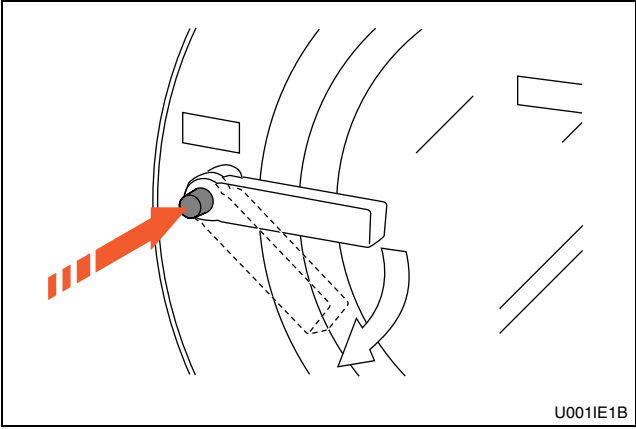

Figure 24
- 2. Push button and turn handle clockwise to open. Refer to *Figure 24*.